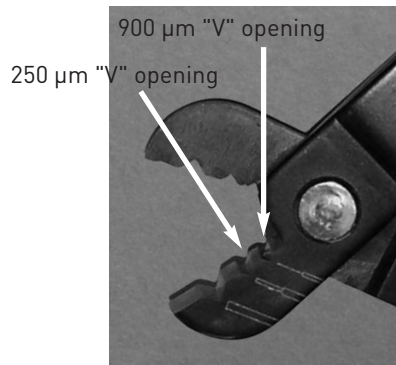

Fig. 1
Step 1. (Fig. 1) Insert fiber into 900 μm "V" opening of the tool.